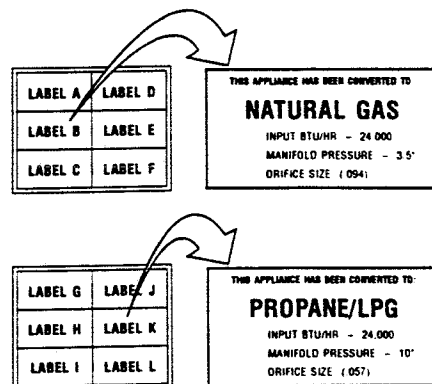

Figure 29
Step 8. Attach conversion kit label to the rating plate on the appliance; Label B for units converted to natural gas or Label K for units converted to propane (*Figure 29*).